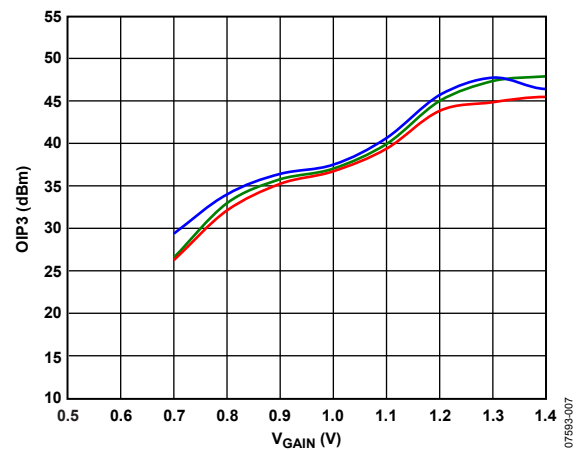

Figure 7. Output IP3 vs. V_{GAIN} at 100 MHz
At high gain settings, the noise floor is set by the input stage, in which case the noise figure (NF) of the device is essentially independent of the gain setting. Below a certain gain setting, however, the input stage noise that reaches the output of the attenuator falls below the input-equivalent noise of the output stage. In such a case, the output noise is dominated by the output stage itself; therefore, the overall NF of the device gets worse on a dB-per-dB basis as the gain is lowered, because the gain is reduced below the critical value. Figure 7 through Figure 9 provide details of this behavior.
The 1 dB input compression point remains constant at 3 dBm through the majority of the gain control range, as shown in Figure 7 through Figure 9. The output compression point increases decibel for decibel with increasing gain setting. The noise floor is constant up to $V_{\text{GAIN}} = 1$ V where it begins to rise.